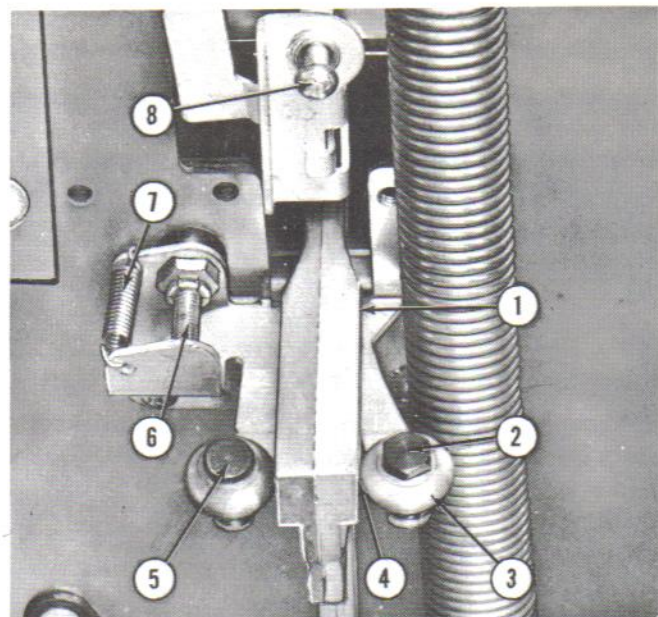
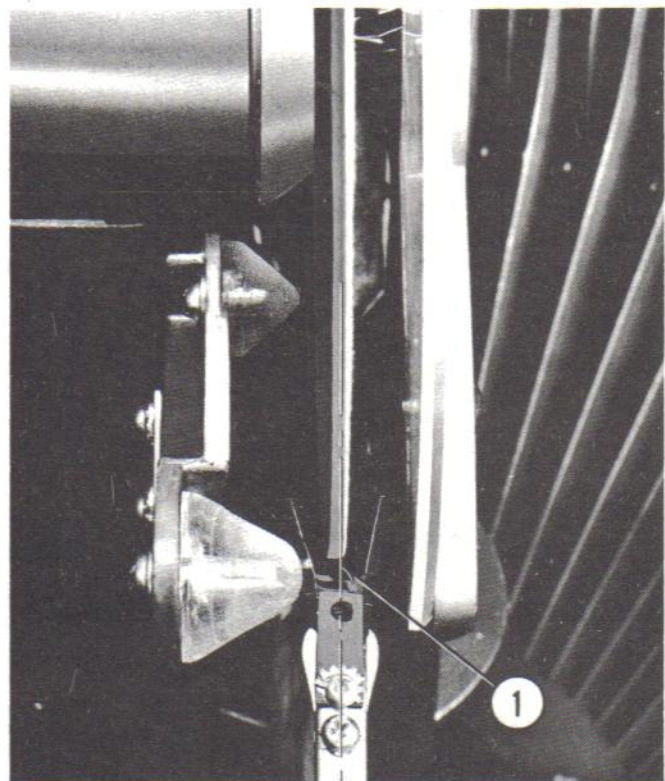

Fig. 42. LIFT ARM ADJUSTMENT, 2500
Fig. 44. RECORD LIFT ARM CENTERING, 2500
be made by stopping the mechanism in play position with a normal size record (6-7/8" diameter) clamped on the turntable. Back out the adjusting screw (Fig. 42, Item 8) until the record lift arm drags on the edge of the record. Make a scribe mark on the screw head and turn the screw in four full turns. The clearance between the edge of the record and the end of the arm should be 3/32". Both lift arms should be checked.
(1) The record lift arms on the 200 selection mechanism differ from those on the 100 or 104 selection mechanism in that they run free of the guide rollers until the arms are nearly at maximum height, at which time the ramp (Fig. 42, Item 1) on the lower end of the lift arm contacts the rollers (Item 3) on the spring loaded bracket mounted on the underside of the chassis mounting plate. The ramp should enter and leave the rollers freely with a minimum clearance of .005" between the rollers and ramp as indicated at Item 4. This dimension may be adjusted while the lift arm is in the raised position by loosening the screw in the hex head eccentric stud (Item 2) and turning the eccentric stud for the correct clearance. Tighten the screw and manually lower and raise the lift arm to check for freedom of action.
(2) With the mechanism still in play position, clamp a perfectly flat record on the turntable
and check the alignment of the lift arm with the record. The record should center with the lift arm as shown in Figure 44, Item 1. Should adjustment be required, turning the screw (Fig. 42, Item 6) will center the lift arm with the record. Both lift arms should be checked for centering.